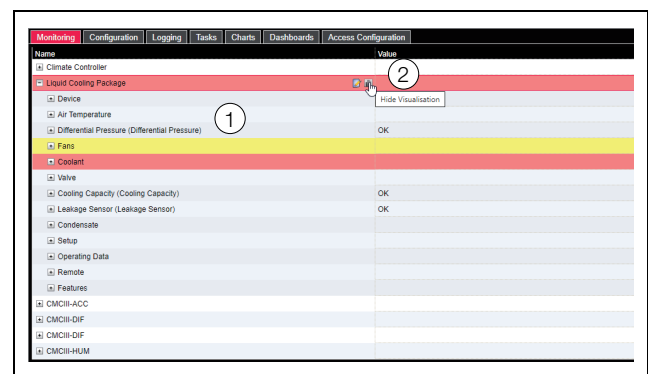

Fig. 141: Tree structure
If, after selecting the "Liquid Cooling Package" level, the subordinate entries "Device", "Air", "Water" etc. are displayed (fig. 141, item 1), you can switch to the graphical representation as follows:
- Press the coloured "Graphics" symbol after the "Liquid Cooling Package" entry in the form of a stylised diagram (fig. 141, item 2).
The display switches to the tree view (fig. 141) and the individual settings for the Liquid Cooling Package may be selected.